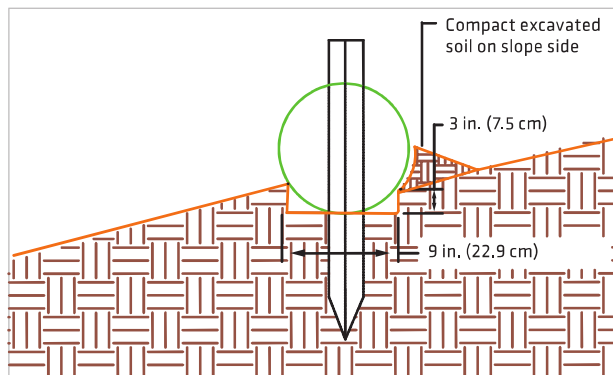

FIGURE 8
2. Place the wattle in the trench so that it contours to the soil surface. Compact soil from the excavated trench against the wattle on the uphill side. Wattles should tightly abut (Figure 8).